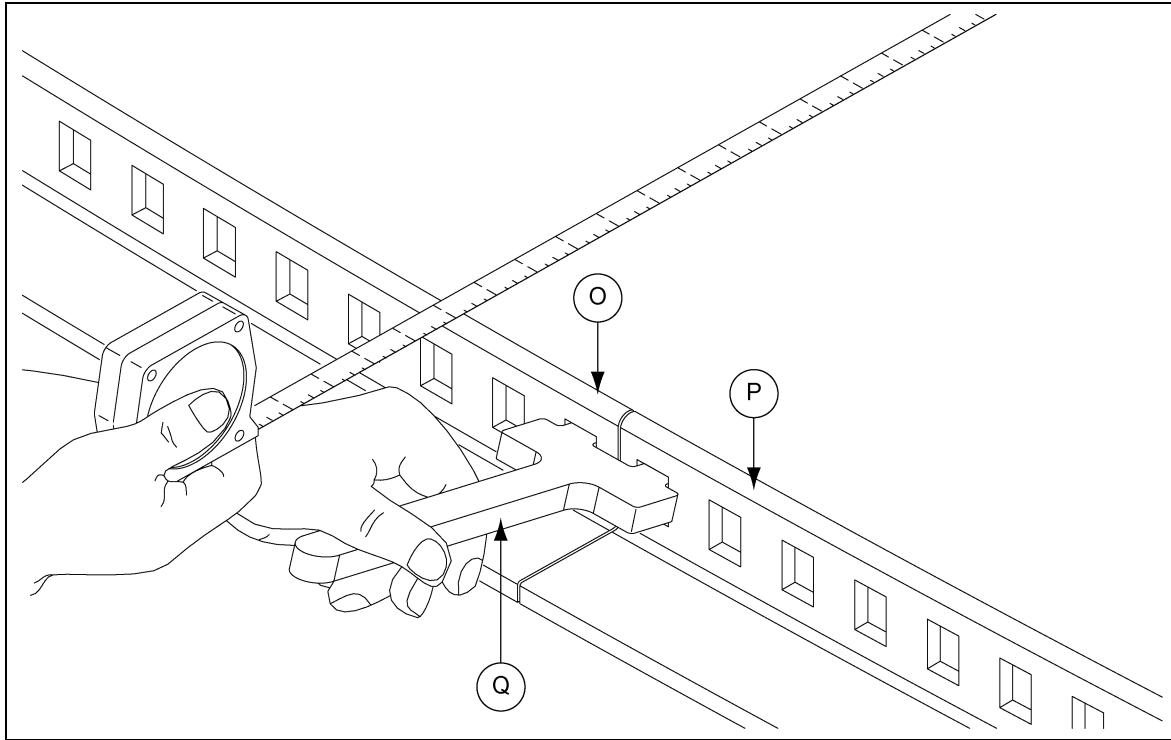

Figure 5C
8. Place each section of track in position around the center well, aligning the inside track edges (P) with the marks in the bin floor. Using the tape measure, ensure each track section has the proper measurement. (See Figure 5C.)